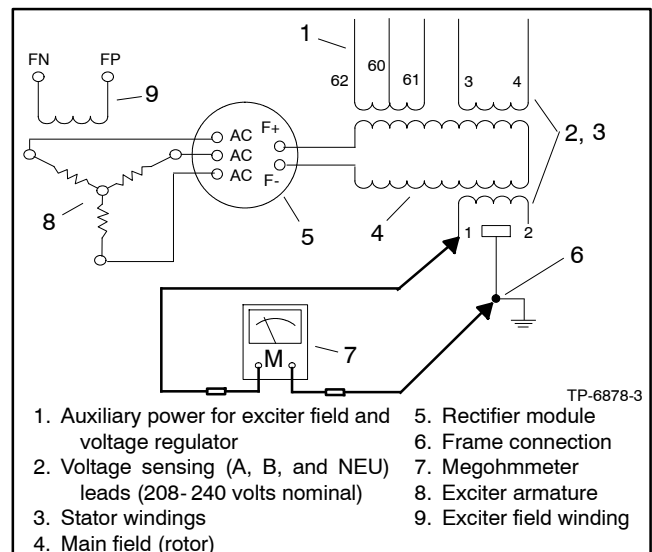
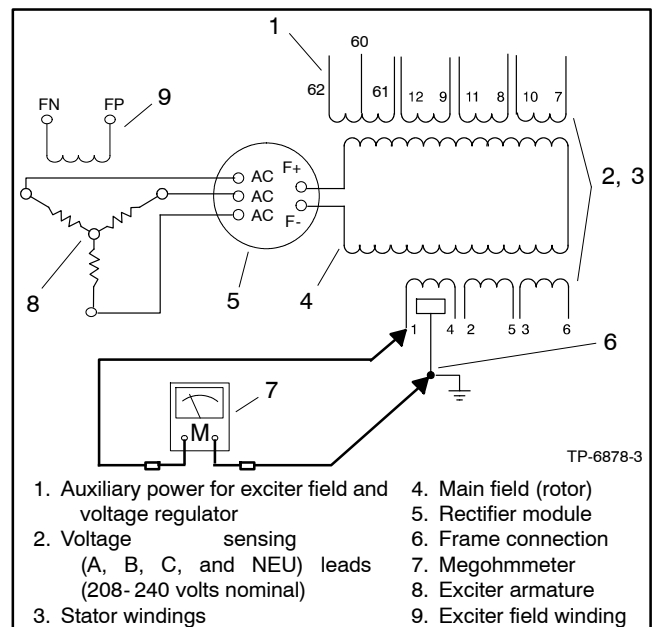

Figure 10-14 Megohmmeter Connections on Stator (Single Phase)
Figure 10-15 Megohmmeter Connections on Stator (Three Phase)
6. Check the stator for a short-to-ground condition using a megohmmeter. See Figure 10-14 for a single-phase megohmmeter connections and Figure 10-15 for three-phase megohmmeter connections.